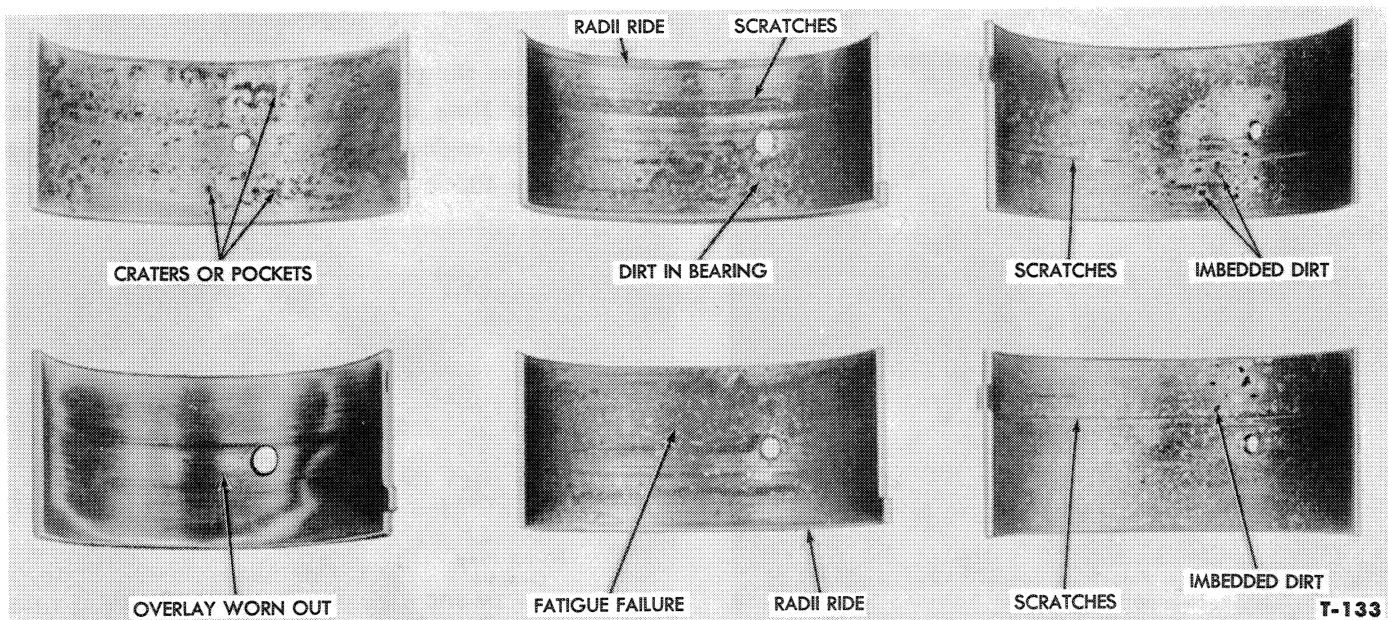

Figure 42—Defective Bearings
1. Replace bearing inserts that are scored, have the overlay wiped out, show fatigue failure, or that are badly scratched as shown in Figure 42.